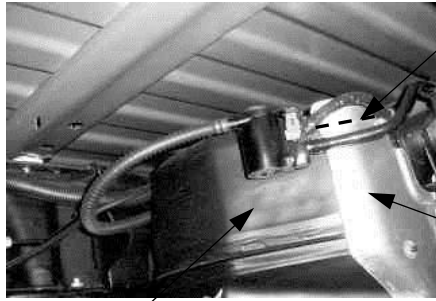

Figure 3
3. Cut the heat shield on the gas tank or bend the top edge down about 1" down to make room for the hitch (see Figure 3).
9. Install the frame bracket clamp by placing the clamp to the inside of the frame rail, insert the 1/2-13 X 4.50 GR5 carriage bolts through the square holes in the clamp and through the frame bracket with the threaded end pointing outwards. Install the conical toothed washers and hex nuts. Some models require using hole in hitch bracket as guide to drill frame. See **Figure 3**.